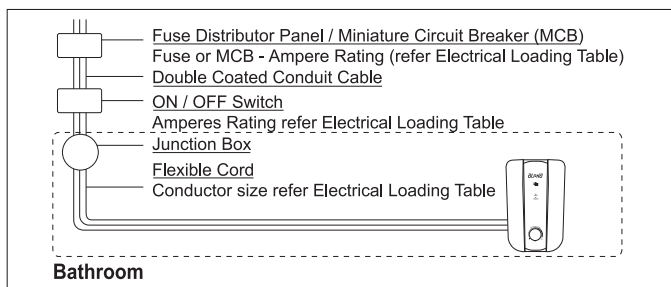

Fig. 2 - General Wiring Layout
- d. All wiring MUST conform to local regulations. If in doubt, always consult a qualified electrician. A typical connection is shown in Fig. 2.